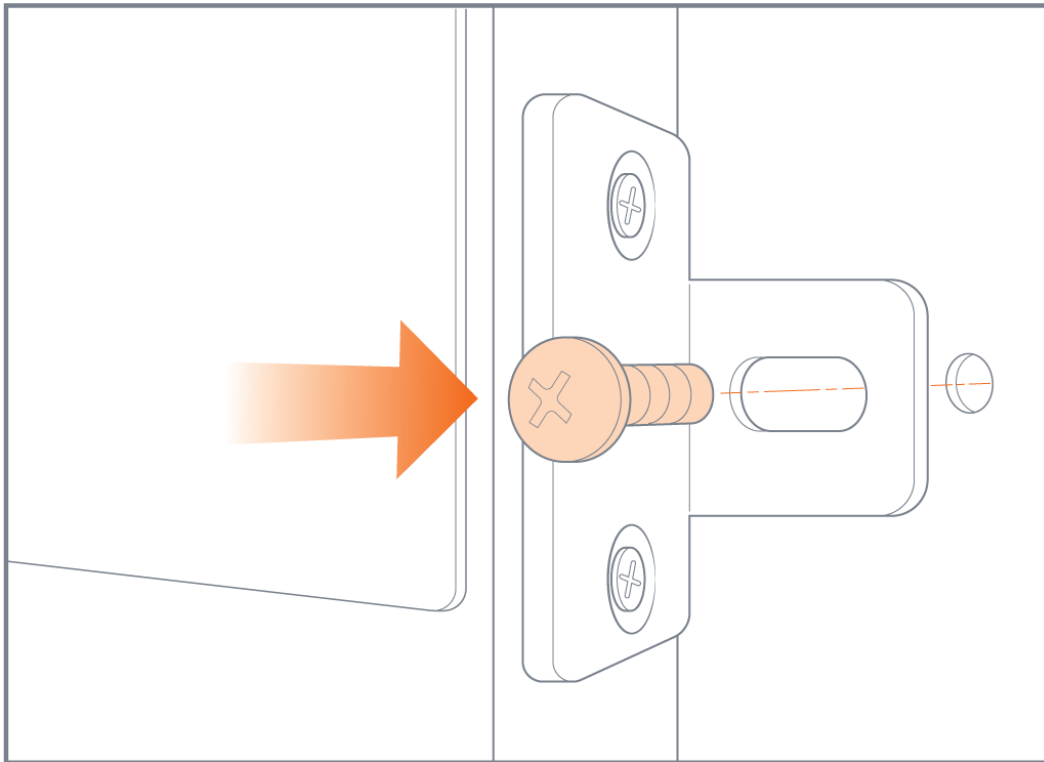

Figure 4: Locking Rack Ear Attached to Rack
9. Insert the screw through the locking rack ear on the chassis to secure the node in place and keep it from sliding out of the slide rail. Tighten the screw. Refer to Figure 4: Locking Rack Ear Attached to Rack.